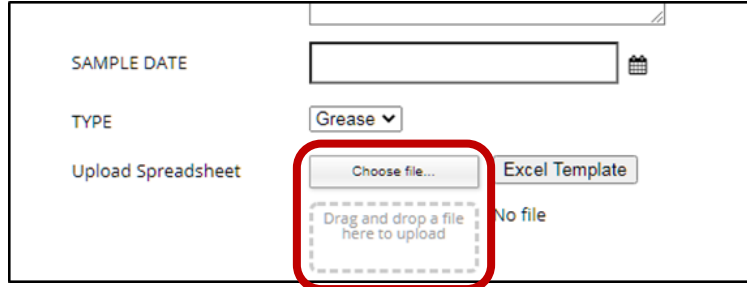

Figure 12 New Sample Input window with the choose file and drag file options highlighted in red.
16. After uploading the file. The bottom of the New Sample Input dialogue box should say “file upload successful” (figure 12). Next, click **Create**. The page should refresh, and the samples will be in recorded.